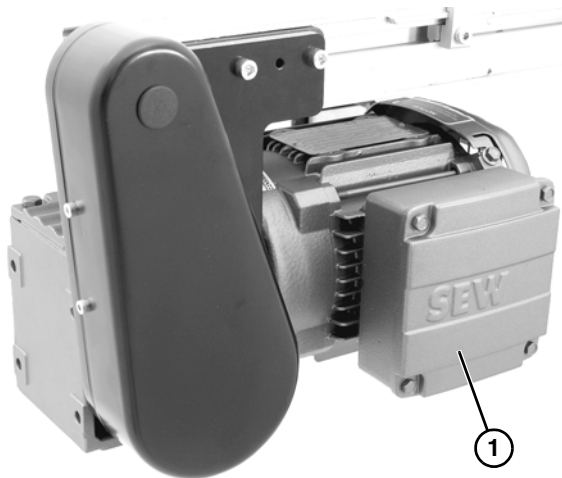

Figure 14
1. Remove cover (**Figure 14, item 1**).